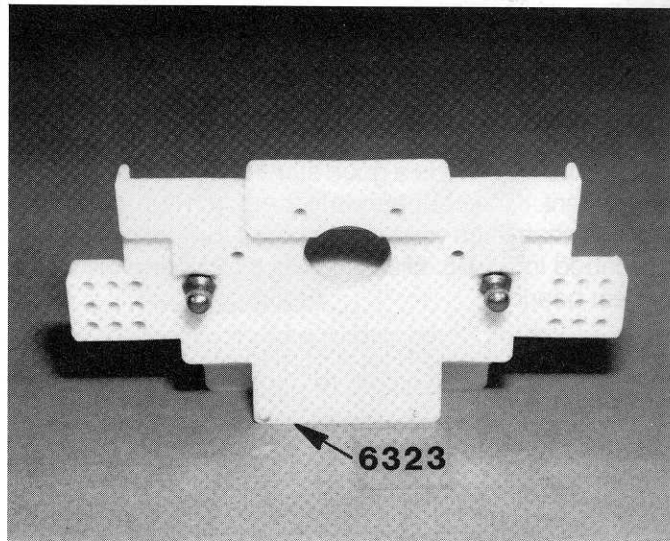

Fig. 78
□ **Fig. 78** Remove the #6323 rear bulkhead from Bag 7-4 and install two #6273 steel ball ends with long threads where shown.